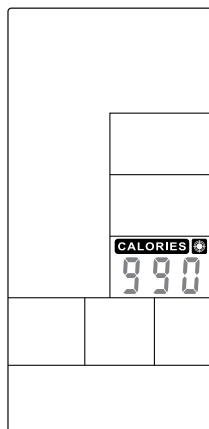

Figure 43
- ⑧ Press any **PROGRAM** key then perform the program accordingly.
- ① In Standby mode, press Target Calories key and **CALORIES** will light up, along with a long sound for 1s.
- ② CALORIES value is flashing, press UP and DOWN to adjust (Figure 43). Press ENTER to confirm meanwhile buzzer beeps 1s and **CALORIES** last lighting up